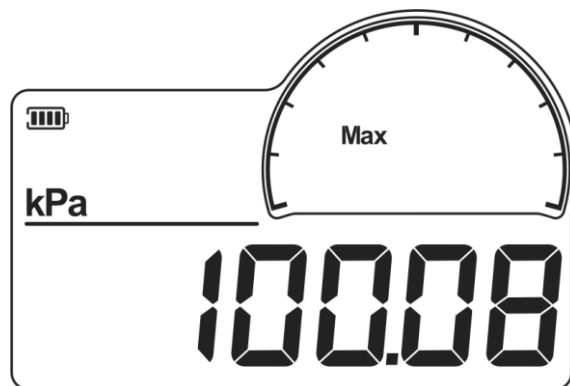

Figure 24 Upper limit calibration
4. Start upper limit calibration, as shown in Figure 24. After the pressure stabilized, short press Enter button to confirm.